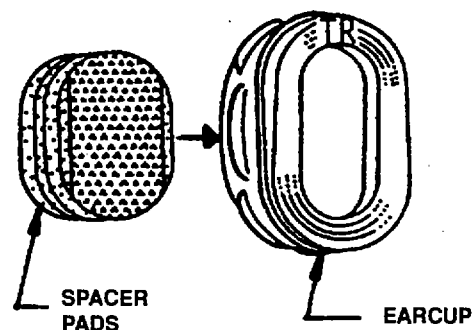

Figure 2-4. Earcup Spacer Pads
e. Earcup Spacer Pads (Figure 2-4). If further earcup fitting is required after the cross straps have been adjusted, earcup spacer pads can be affixed to the earcups. Each earcup spacer pad set contains two thick pads and two thin pads; any number of pads can be used to suit individual needs. The pads can be cut to any size or shape needed (through trial and error) for the best earseal compression.